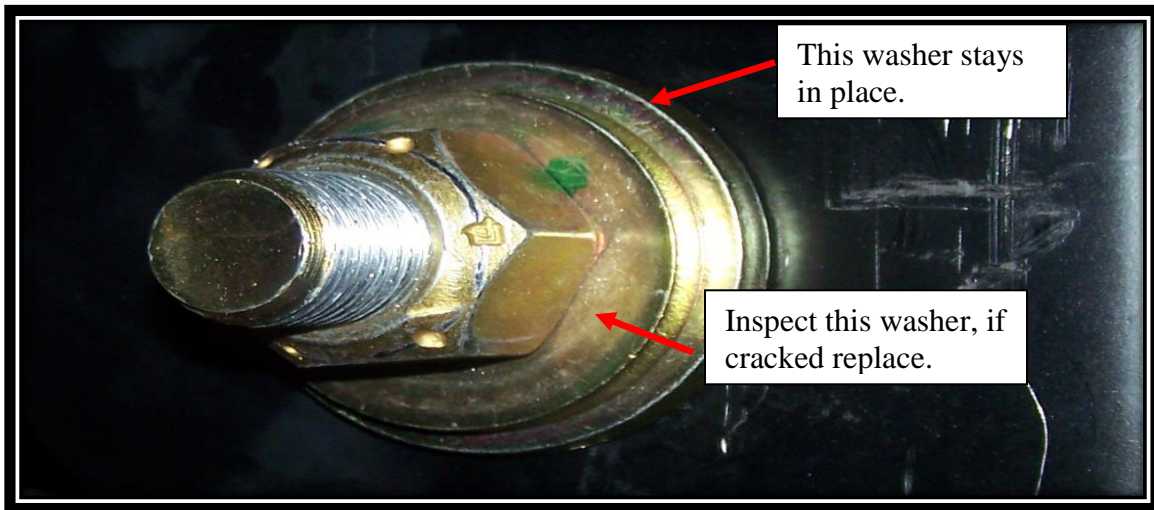

FIG. 2-1
2. On the left side (Drivers) inspect the spring washer, if cracked remove nut and replace spring washer with crown out towards nut. Re-install the nut and torque to 525 lbf-ft. Refer to FIG. 2-1.